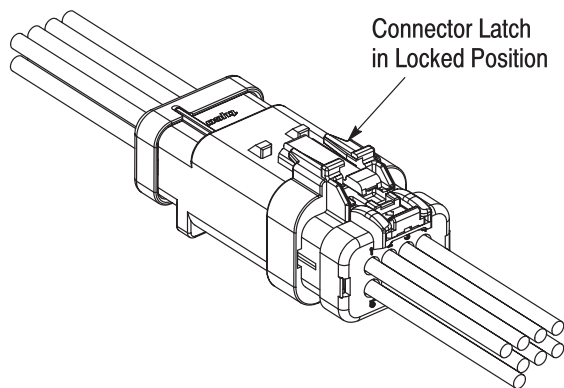

Figure 7
6. When all contacts have been locked securely in the assemblies, complete the connector system by mating the plug and cap until the connector latch is in the fully locked position. See Figure 7.